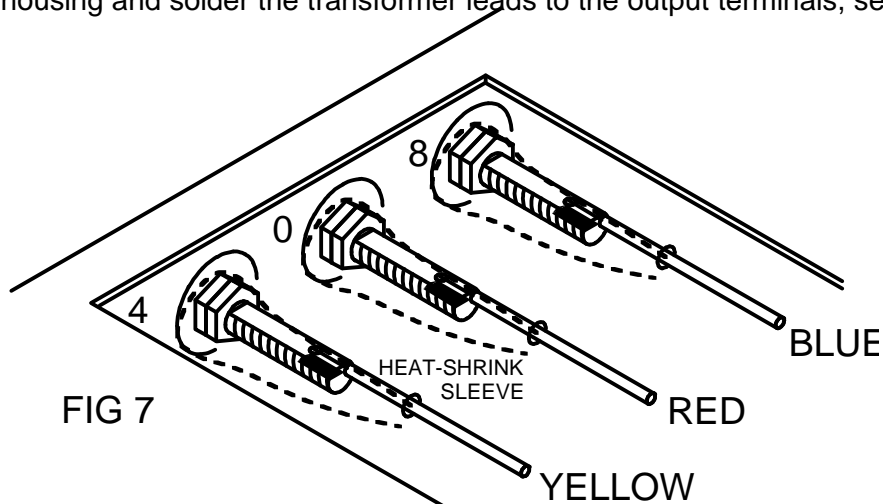

FIG 7
- ◇ Solder the transformer leads to the output terminals, see figure 7. Do not forget to slide a 3 cm length of insulating heat shrink sleeve over the wires: